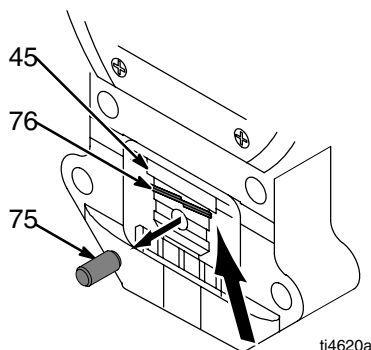

Fig. 8
8. Fig. 8. Slowly rotate fan blade on back of motor until connecting rod (45) near bottom of stroke.